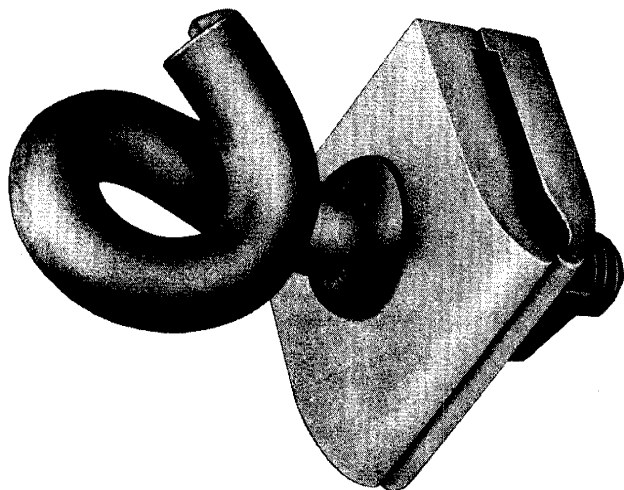

Fig. 1—E Span Clamp
1.03 The E Span Clamp (Fig. 1) was designed to be used on suspension strand and the jacketed strand of self-supporting cable. *However, when the E Span Clamp is used on suspension strand supporting lashed lead sheath cable, a B Cable Guard must be placed around the cable beneath the Span Clamp to provide mechanical protection from the jaws of the clamp (Fig. 5).*